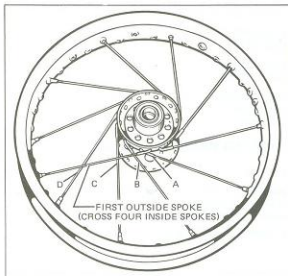

Figure 2-19. Spoking Wheel - 16 Inch Wheel
5. Insert spokes in outer ten holes of flange and swing spokes clockwise (see Figure 2-19).